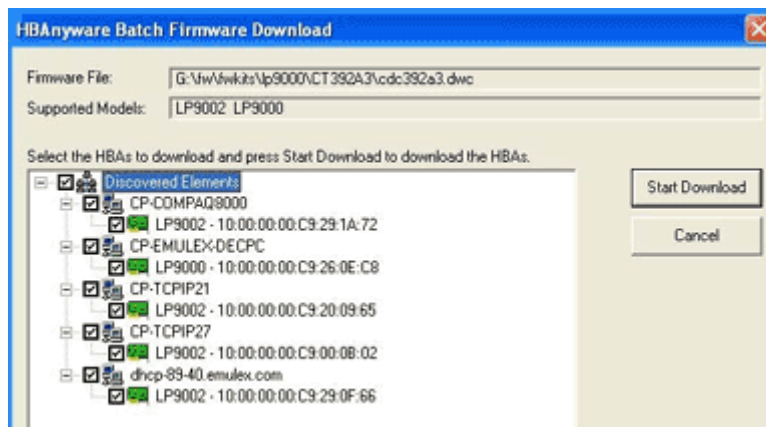

Figure 45: Batch Firmware Download Window, Selecting HBAs to Update
5. Click the box next to the HBA to select or remove that HBA from the batch processing. Click the box next to a host to select to remove from the batch process (Figure 45).